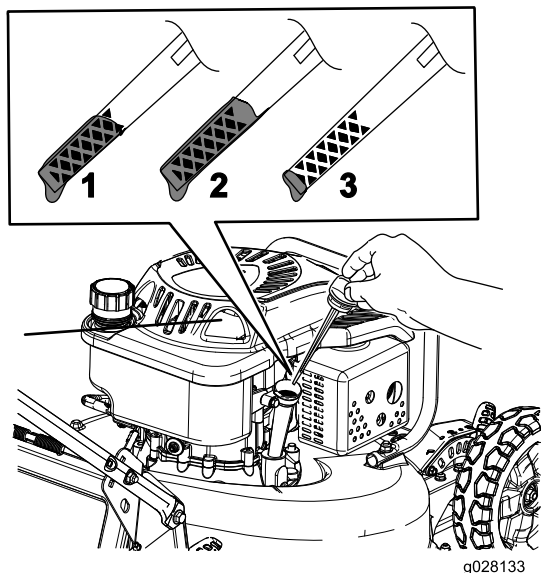

Figure 24
9. Remove the dipstick and read the oil level on the dipstick (Figure 24).